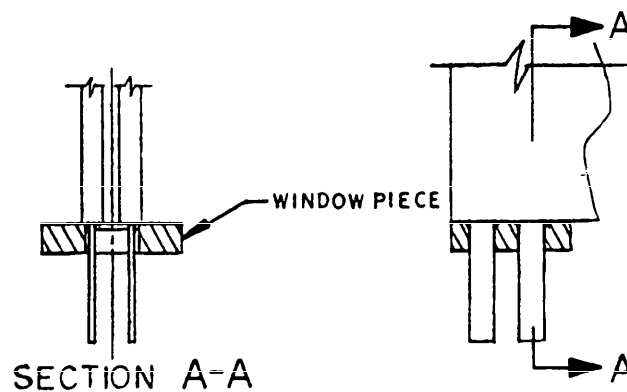

FIGURE 2. Cable insertion.
- A. Thread the uninsulated conductors through beveled side of window piece until the window piece is flush against the insulation. See Figure 2 (Cable Insertion).